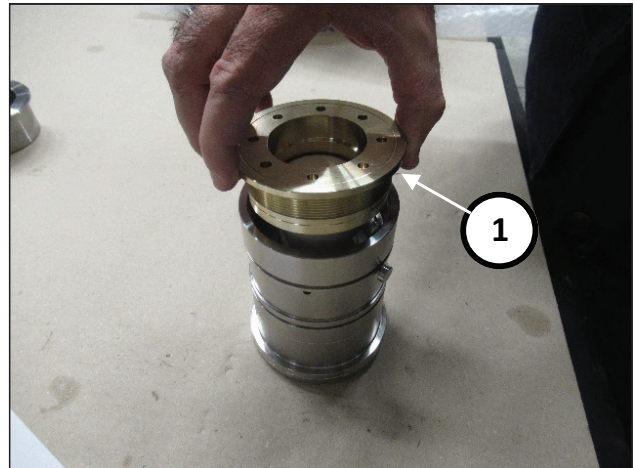
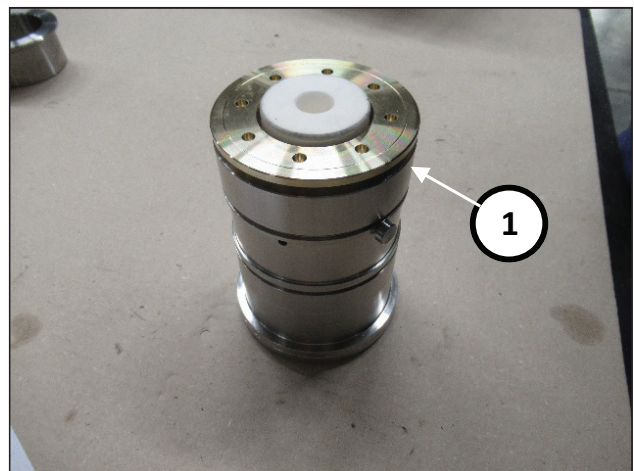

Fig. 186
Fig. 187
Remove the inner buffer and outer ring from tool no. 27945400 and screw on the seal support complete with low-pressure seal and O-ring (pos. ①, Fig. 186) to end stroke (pos. ①, Fig. 187)